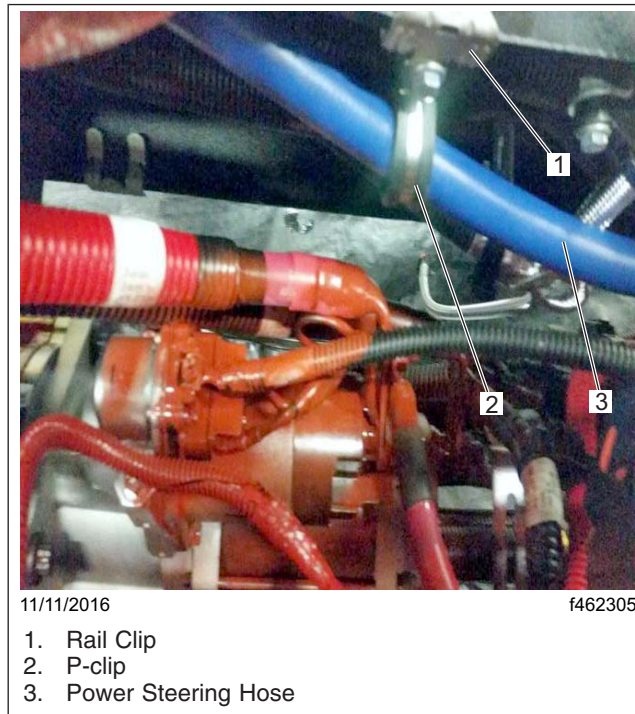

Fig. 1, Power Steering Hose with P-Clip (body removed for clarity)
- 6.1 If the power steering hose is held with a P-clip near the starter stud, no work is needed. See Fig. 1. Clean a spot on the base label (Form WAR259). Write the recall number, FL762, on a completion sticker (Form WAR260), and attach it to the base label.
2. Using a P-clip, bolt, nut, and washer, secure the power steering hose on the rail clip. See Fig. 1. Tighten the nut 72 lbf-in (813 N-cm).